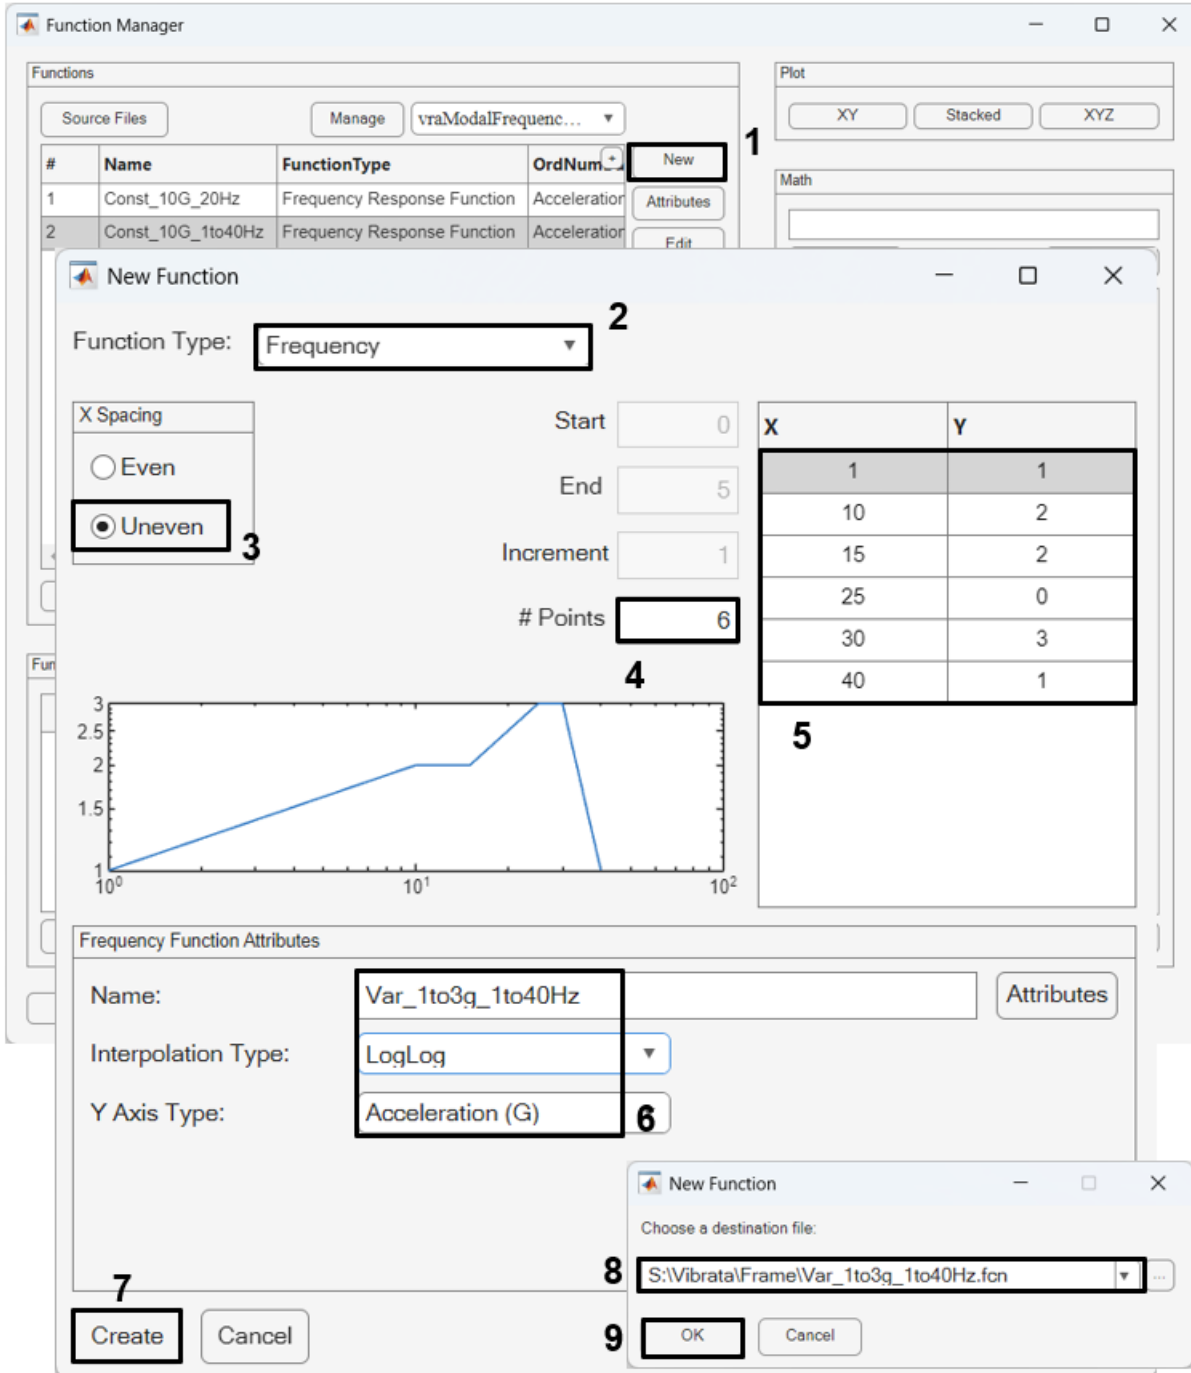

Figure 4-30. Make the function uneven and give it non-constant amplitude.
- d. With the Function Manager still open, create a new acceleration function that is not constant. Use the values shown in Figure 4-30. Be sure to name it as shown and set its interpolation method to *LogLog*. We will use this function in the second part of this example.